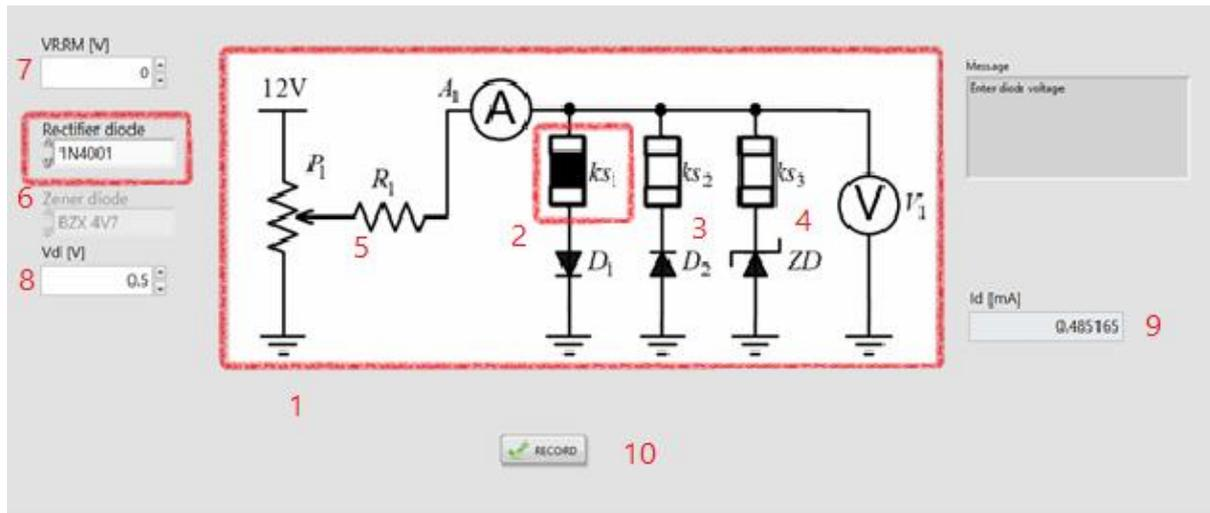

Figure 4.2 Diode function components
The components of Diode function are shown in Figure 4.2.
- By setting Diode function, a window as in Figure 4.2 opens on the desktop.